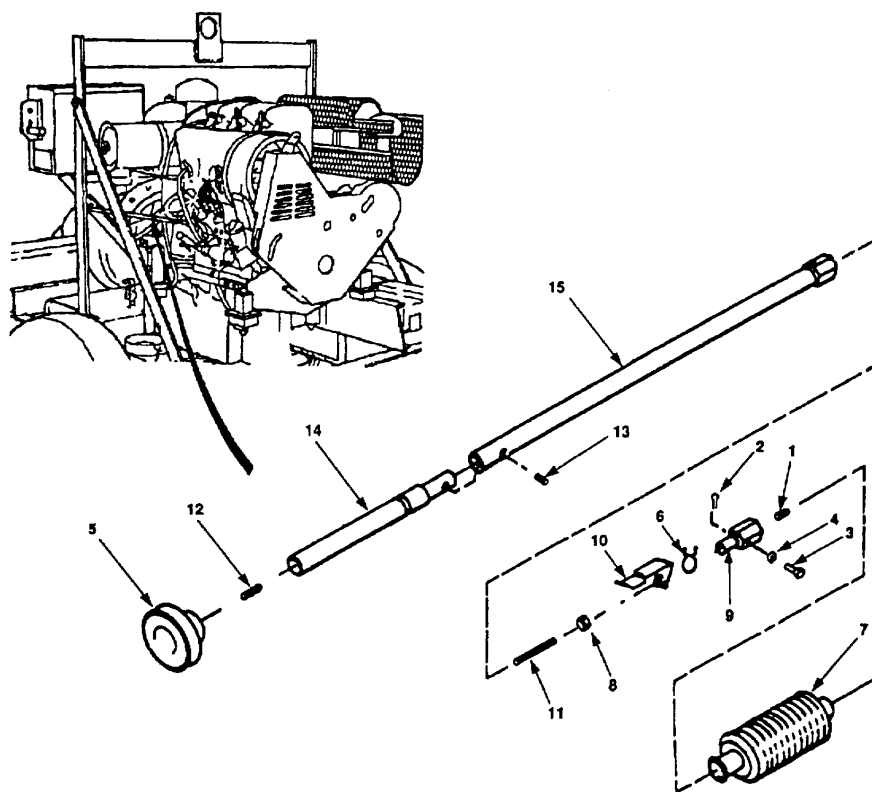

Figure 4-35. Throttle Control Assembly Maintenance (Unregulated Models only).
- a. Remove set screw (figure 4-35, 1), cotter pin (2), pin (3), and spacer (4).
- b. Remove knob (5) and throttle control assembly.
- a. Squeeze ends of clamp (6) and remove bellows (7) .
- b. Loosen lock nut (8) and remove coupling nut (9), retaining spring (10), lock nut (8), and clamp (6).
- c. Remove threaded rod (11), threaded rod (12), set screw (13), rod (14), and extension rod (15).